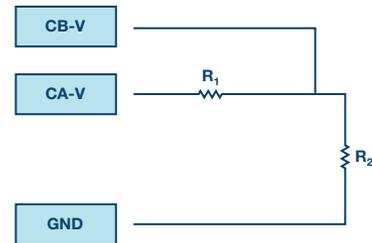

Figure 5. Rail-to-rail circuit.
- ▶ Build the circuit shown in Figure 5 on your solderless breadboard using two 470 Ω resistors.